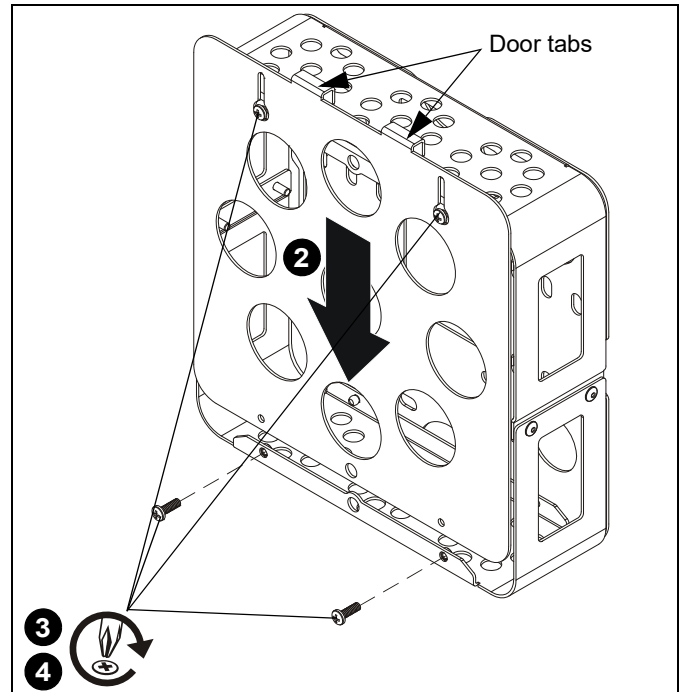

Figure 10
- Remove back cover from back of ceiling mount. (See Figure 10)
- Replace enclosure door on front of the FCA510/FCA515 by inserting door tabs into top of enclosure and lowering top of door over loosened Phillips screws. (See Figure 10)
- Install two Phillips screws removed in Step 1 through lower part of door and into the enclosure base. (See Figure 10)